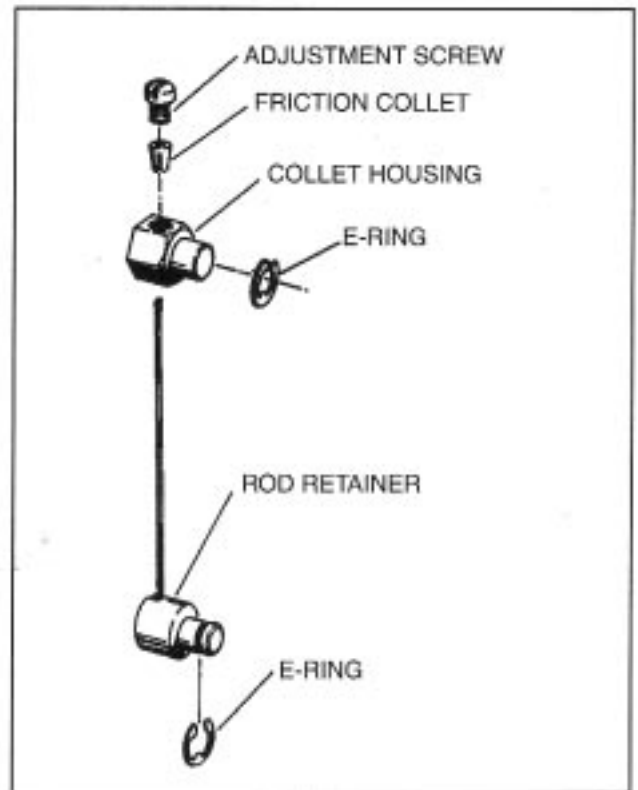

FIGURE 9
1. Make sure that the friction brake is assembled on the side of the arm, opposite from the cable. If friction brake must be relocated, remove parts shown in Figure 9. Then reinstall in opposite location as specified by following procedure.